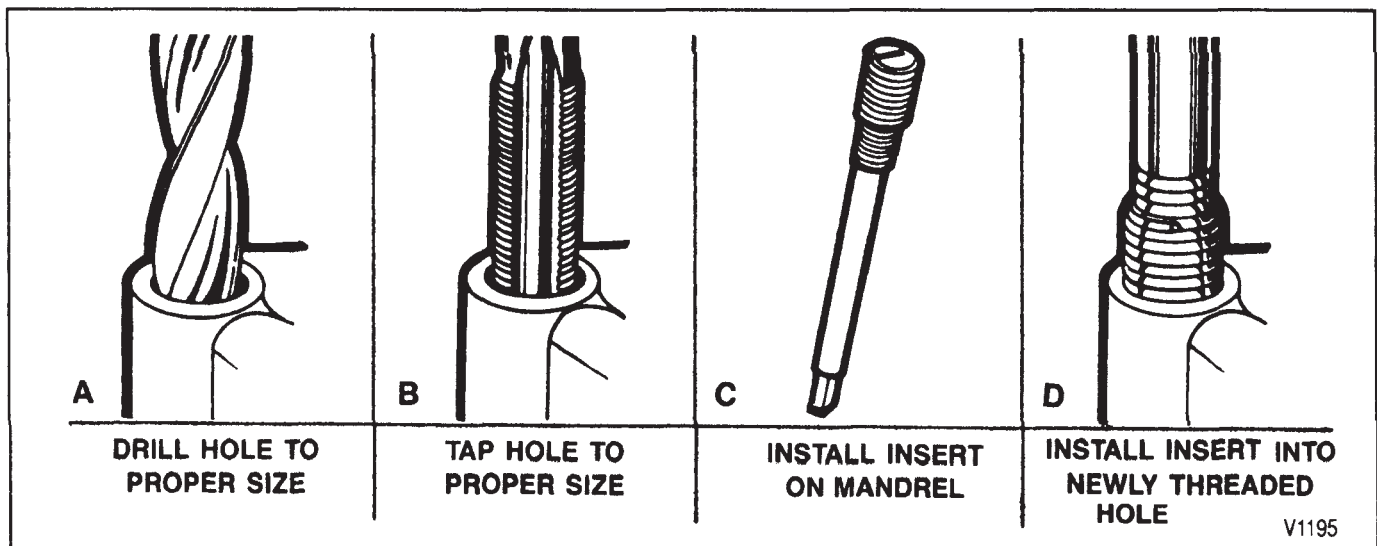

Figure 32—Repairing Thread Holes
4. Thread the thread insert onto the mandrel of the installer (figure 32). Engage the tang of the insert onto the end of the mandrel.